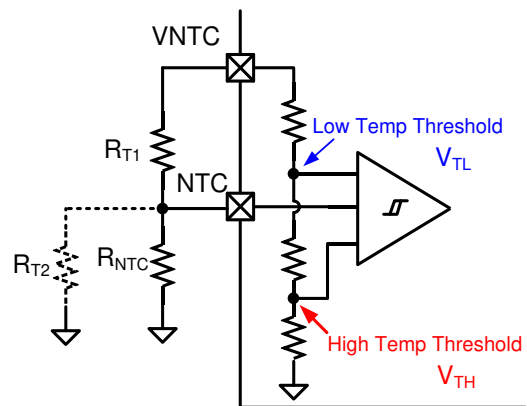

Figure 16: NTC Function Block
Figure 16 shows that an internal resistor divider sets the low temperature threshold (V_{TL}) and high temperature threshold (V_{TH}) at 66.2% · V_{SYS} and 35.7% · V_{SYS}, respectively. For a given NTC thermistor, select an appropriate R_{T1} and R_{T2} to set the NTC window with Equation (8) and Equation (9):